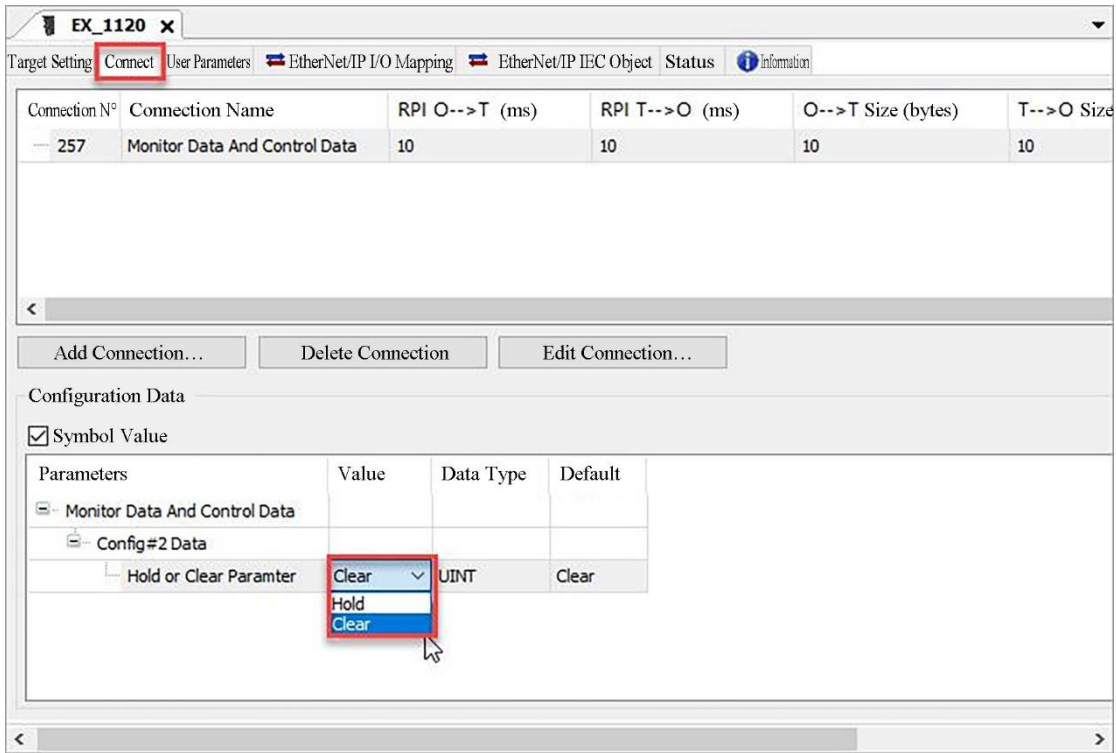

Figure 6-1-2 Schneider programming software configuration output hold
- Schneider Machine Expert V2.0 software is configured with EX-1120 output IO hold, as shown in Figure 6-1-2. Clear indicates that the output is not held, and Hold indicates that the output is held.